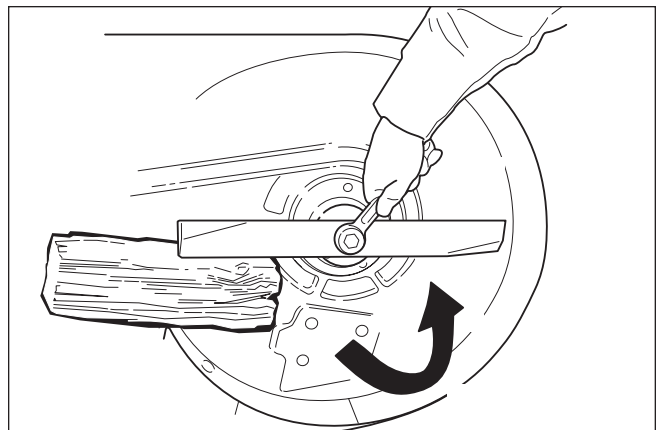

Figure 17. Loosening the Mower Blade for Removal
1. See Figure 17. To remove the mower blade, wedge a wooden block between the mower blade and the mower deck housing to keep the mower blade from turning, then remove the mower blade and the mower blade retaining hardware.